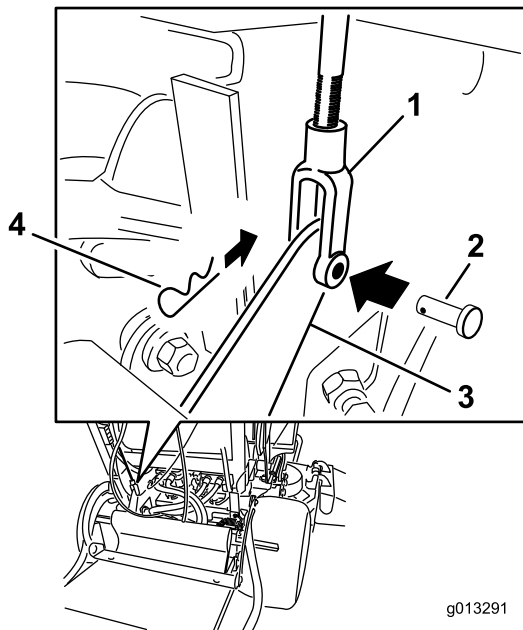

Figure 62
4. To adjust the brake, remove clevis pin and hairpin-cotter pin from the lower-brake lever and yoke (Figure 62).
7. Secure the yoke to the lower-brake lever with the clevis pin and hairpin-cotter pin (Figure 62).